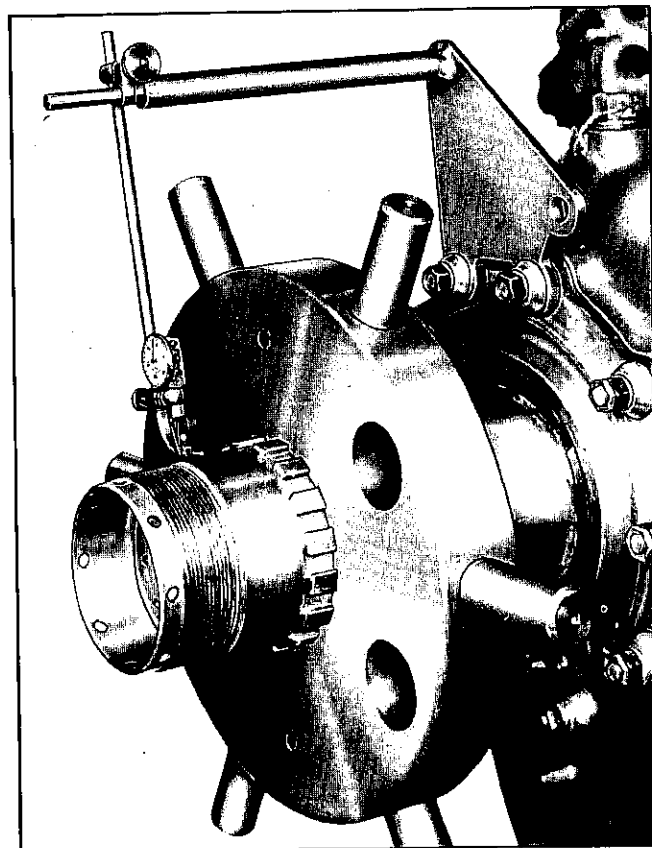

Figure 48—Checking Propeller Shaft Alignment.
(1) Whenever an accident as described above occurs to any of the engines covered in this handbook, the engine should be removed as soon as possible and forwarded to the control depot for disassembly and inspection.
(2) In the case of a propeller striking some object, which momentarily reduces the speed but does not completely stop the engine, inspection should be made of the engine to determine whether or not it may be continued in service. The inspection should include a misalignment check of the propeller shaft with a dial indicator and Allison Tool No. 2447. The propeller shaft runout when measured in this manner should not exceed .005" at the front cone seat location. See Figure 48.